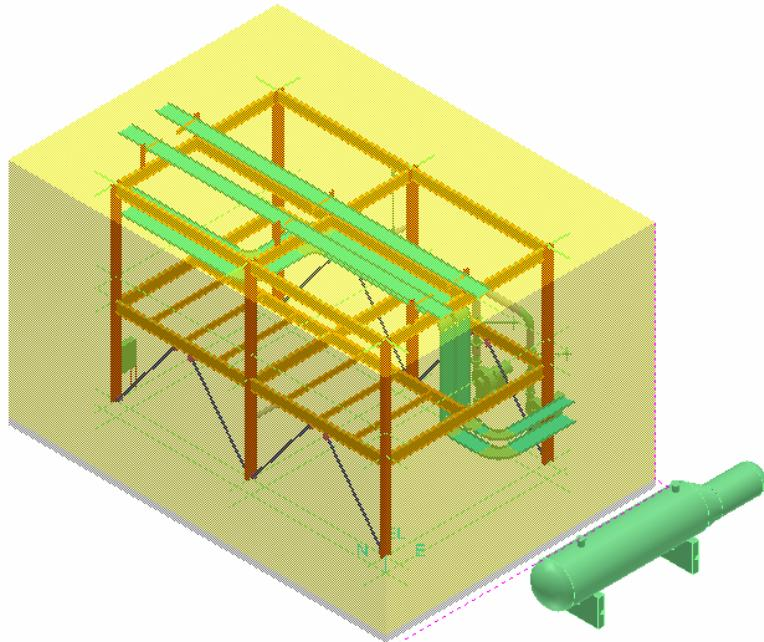

Figure 38: Output - After Placing the Drawing Volume
11. Click the graphic view to place the fourth point. Notice that when you click the graphic view, the volume is created as shown in Figure 38.